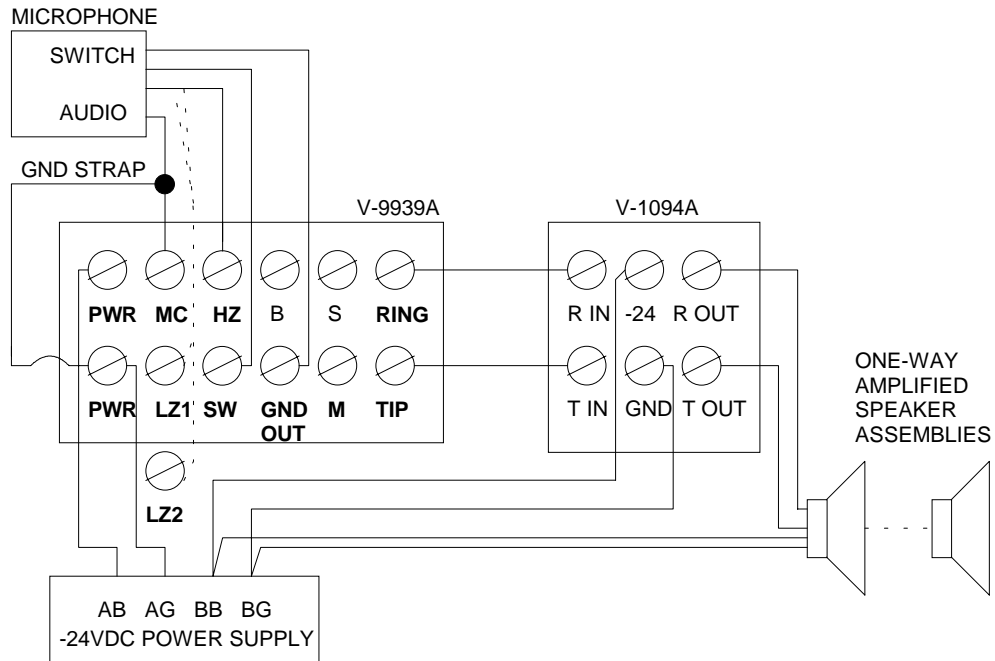

FIGURE 4 - STAND ALONE PAGE SYSTEM
- ___1. Stand alone page system: Proceed to Figure 4.
WIRING INSTRUCTIONS (For Figure 4)